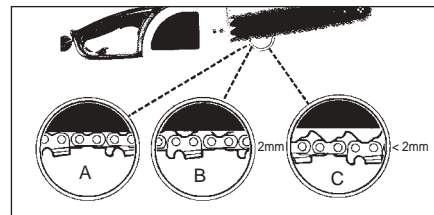

Fig. 4
NOTE: A new chain and bar will need readjustment after as few as 5 cuts. This is normal during the break-in period, and the interval between future adjustments will lengthen quickly (Fig. 4).
CAUTION: If a chain is TOO LOOSE or TOO TIGHT, the bar chain and saw bearings will wear more rapidly. Study Fig. 4 for information concerning correct cold tension (A), correct warm tension (B), and as a guide for when saw chain needs adjustment (C).
CAUTION: If the chain is too loose, more than 3mm after applying down force with finger, as shown in Fig. 4. It needs to be adjusted, otherwise the stopping time might be over the limit.